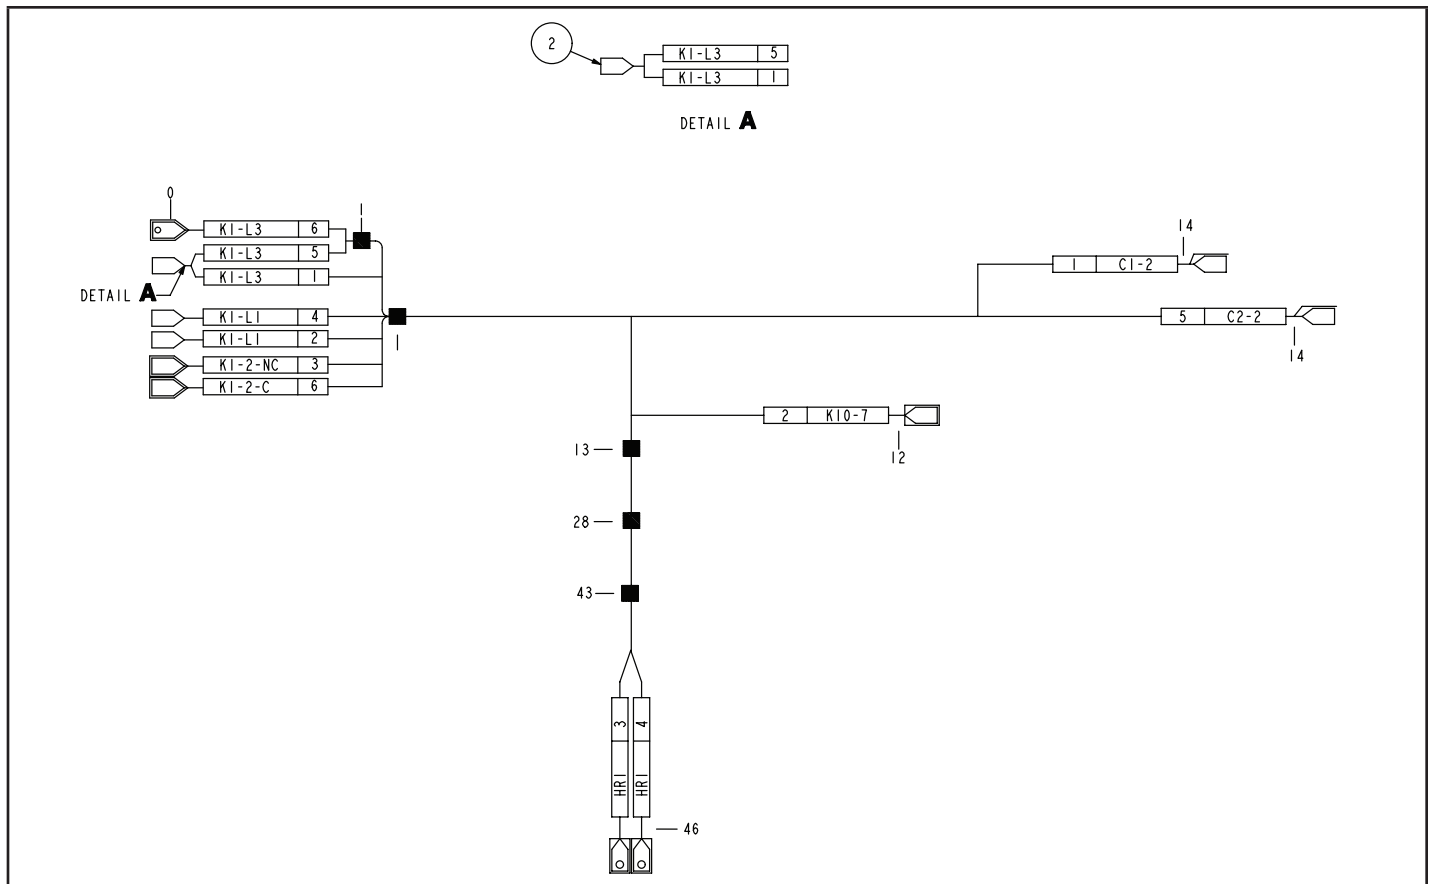

FIGURE 4. Factory-Installed Fan Power Harness (Must be Removed)
- 4 - Remove existing fan power harness and discard it. (Refer to figures 4 and 5 for the harness to be discarded.)